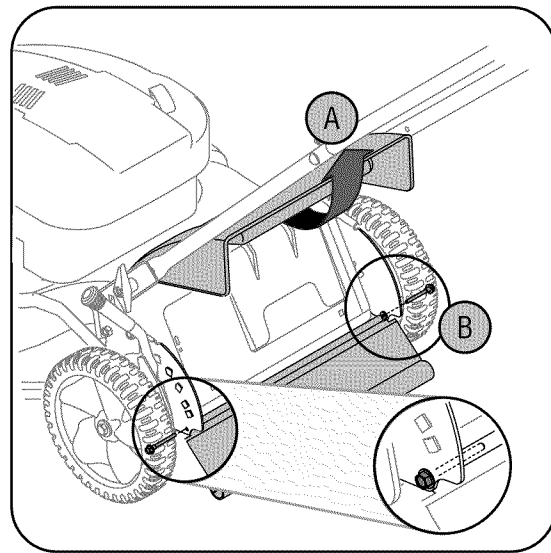

Figure 11
2. Remove two self-tapping screws which secure rear flap to the deck. See Figure 11.